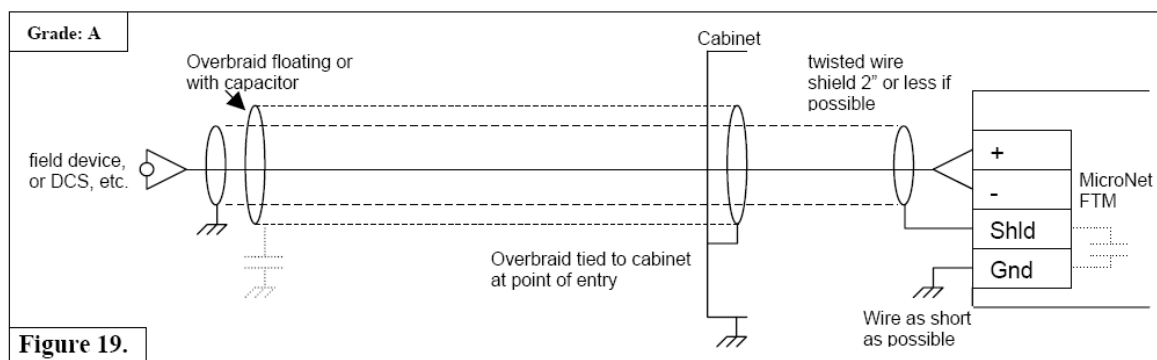

Figure 4-4. Shield Termination Diagram 2
Depending on an MPU's limitations, each input channel can be jumper configured to allow an MPU to drive either two or three inputs (some MPUs cannot drive three inputs). Wire jumpers must be installed to allow an MPU to drive into all three inputs. When the jumpers are not installed, only two input modules are driven by a MPU. With proper MPU, gear size, and MPU-to-gear clearance, speed measurement should be capable down to 100 Hz. Standard MPU clearance is recommended to be 0.25 to 1.02 mm (0.010 to 0.040 inch) from tooth face to pole piece. For information on selecting the correct MPU or gear size, please refer to Woodward manual 82510. See Figure 4-4 for wiring schematic.
Each FTM connects to the control's MPU & Analog I/O modules through individual cables, and provides a common cage-clamp terminal connection for customer field wiring. Figures 4-4 and 4-5 illustrate the different input wiring configurations based on the type of speed sensing probes used.
- MPUs only (ch1-3)—Jumper must be added to each channel as shown in Figure 4-4 to allow the "C" analog module to sense speed.
- MPUs only (ch1-3)—Jumper must be installed from 'PROXRTN' to 'COM PROX' as shown in Figure 4-4 to avoid noise issues.